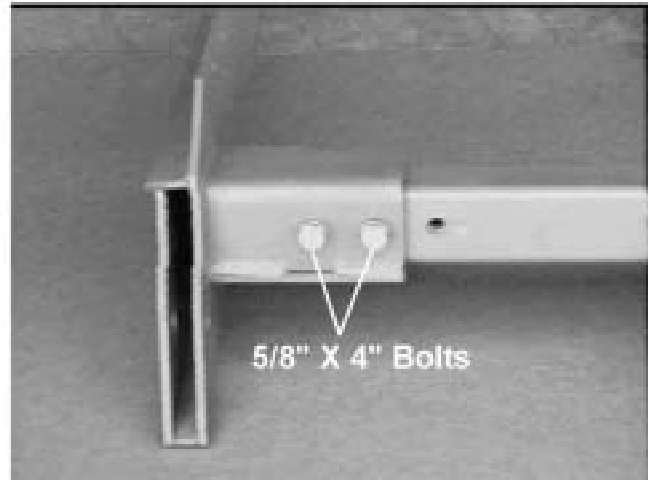

Figure 8
2. Install two 5/8" x 4" grade 8 bolts per side (four total) with washers (one on each side of the receiver hitch). See Figure 8.